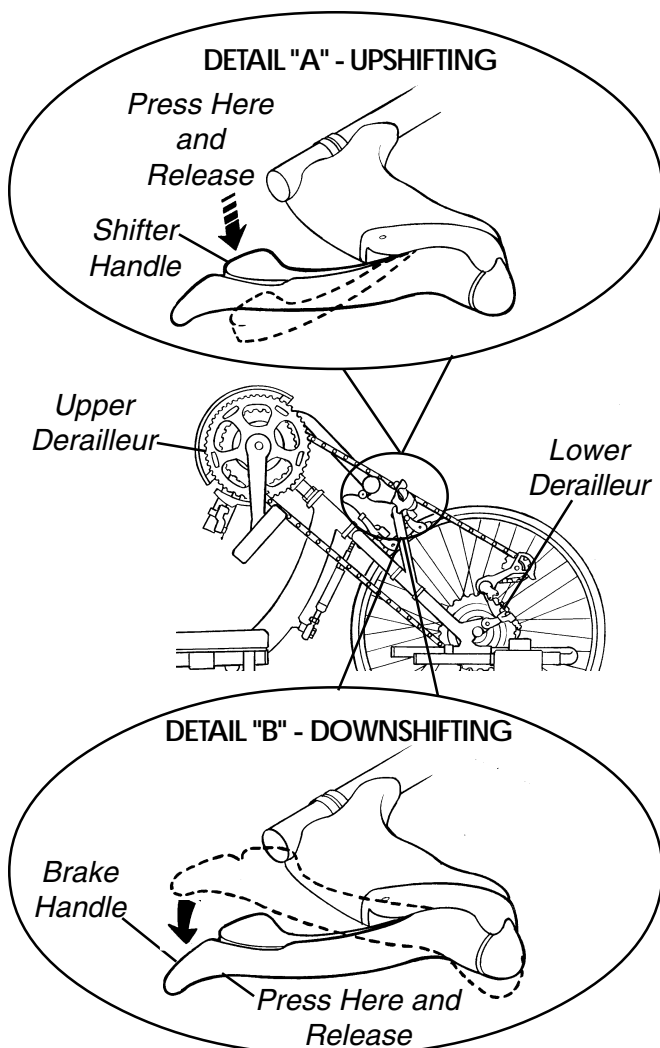

FIGURE 3 - EXCELERATOR XLT 2000 TWENTY-SEVEN (27) SPEED CASSETTE
Excelerator XLT 2000 Twenty-seven (27) Speed Cassette (FIGURE 3)